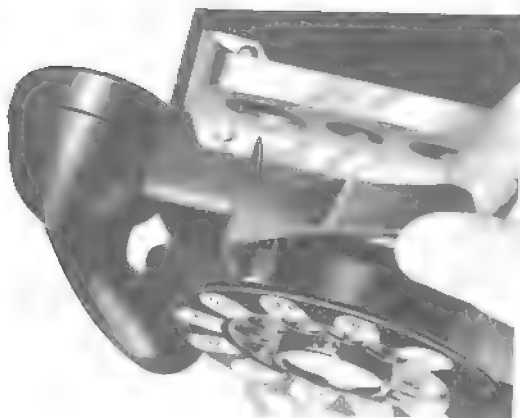

Fig. 29—Method For Installing P-14A544 Coin Deflector
- 6.24** A P-14A544 coin deflector is used with the 5-type dial and the 56A dial adapter. P-14A544 coin deflector replaces earlier P-16A805 coin deflector. See Fig. 29 and 30 for installation.